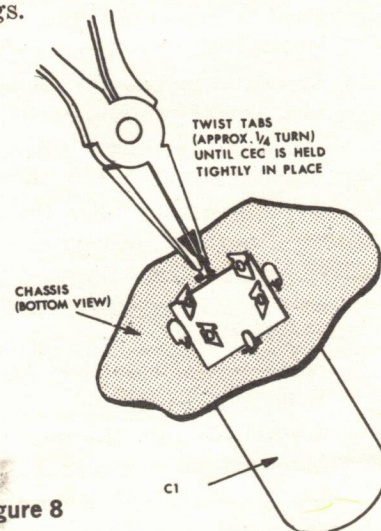

Figure 8
- A1-8**  Now position C1 (CEC 4X40/250) in the slots marked C1, so that the little identification marks on the base (a triangle, square, and semicircle) agree with those shown on chart A-1. With your long-nosed pliers, grasp the outer mounting tabs firmly and twist them one quarter turn each. This will seat C1 firmly. (See Figure 8.)